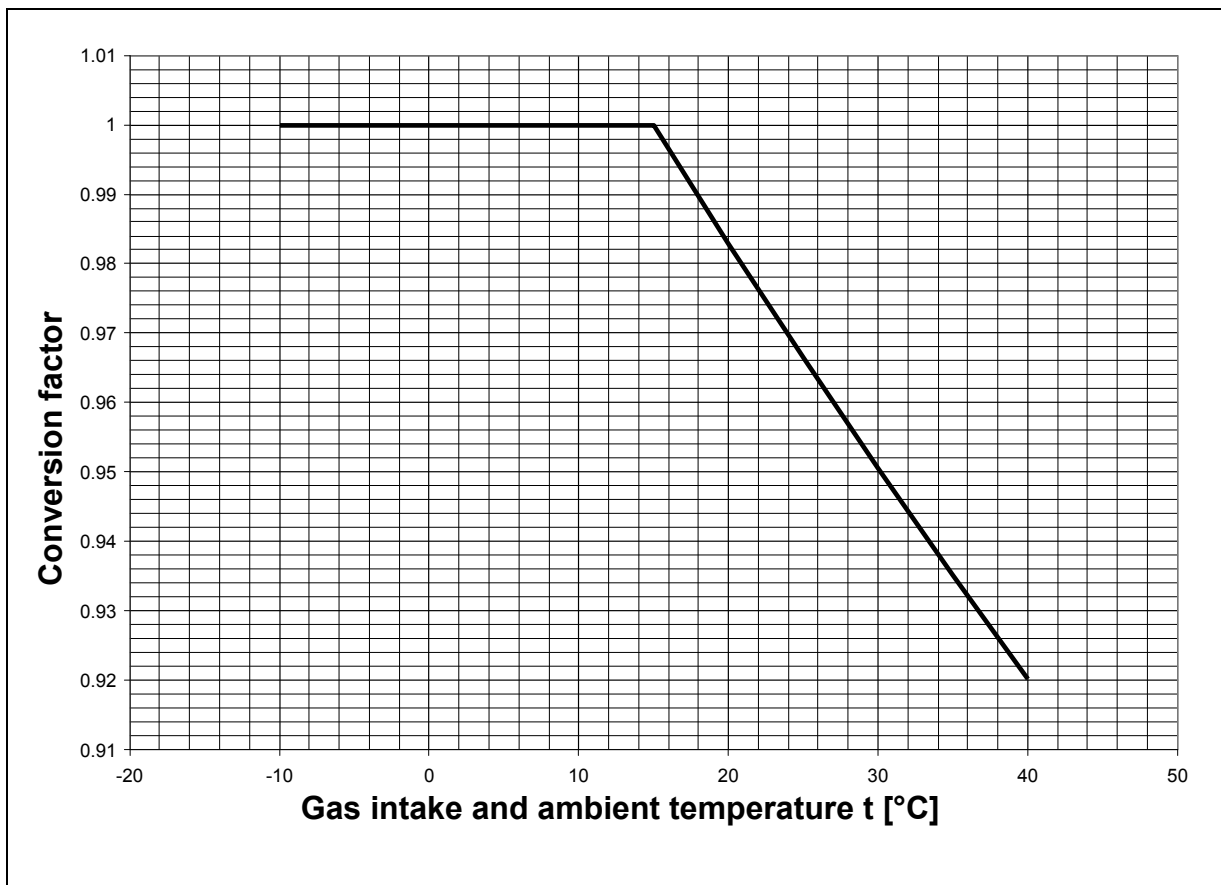

Fig. 3: Permissible total differential pressure / conversion factor
- are designed for continuous operation; in case of increased turn-on frequency or increased intake and ambient temperature the limiting overtemperature of the winding and the bearings must not be exceeded (operation only according to "Fig. 3", page 9).
**IMPORTANT:** For the max. permissible total differential pressure at temperatures other than +15°C [+59°F] see "Fig. 3", page 9.